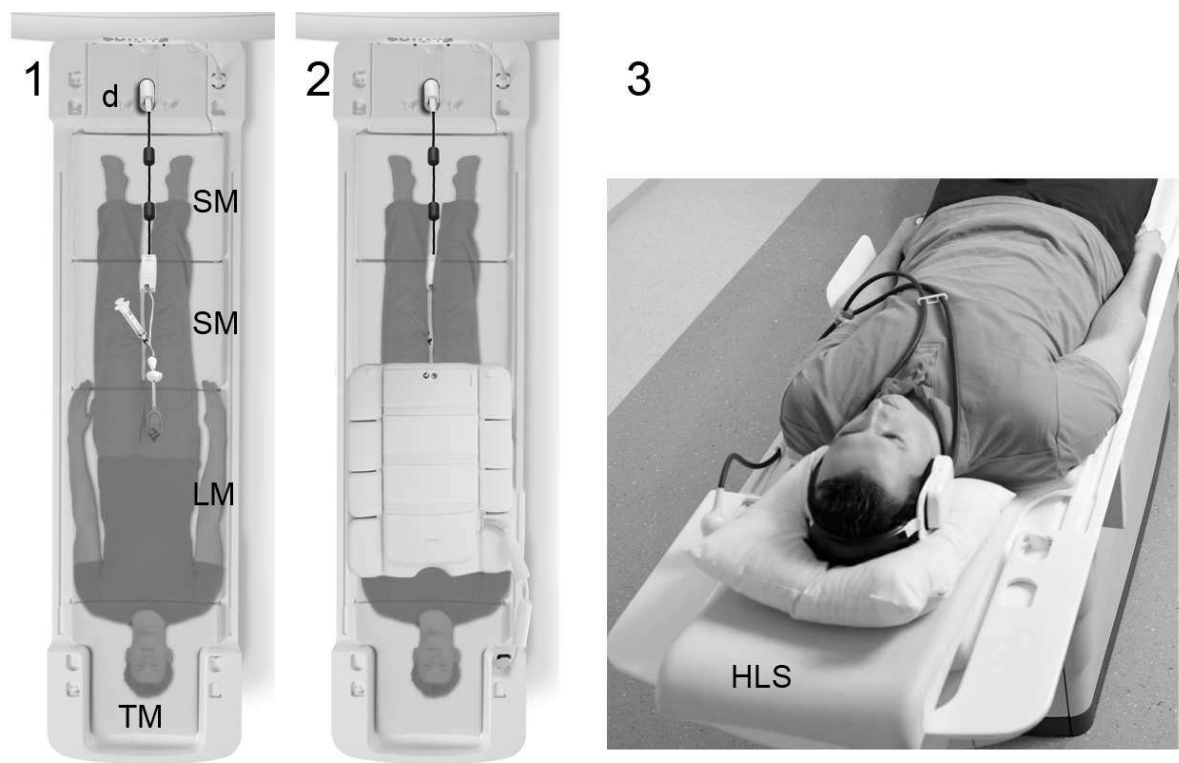

Fig. 133: Positioning with the dS Endo coil solution.
1. Prepare the tabletop as shown in figure 133 on page 287:
4. Recommended: Place the Anterior coil on the patient and connect the coil to the socket at the handgrip side of the tabletop. See figure 133 on page 287.
Always connect the Anterior coil to the socket at the handgrip side. See figure 133 on page 287.